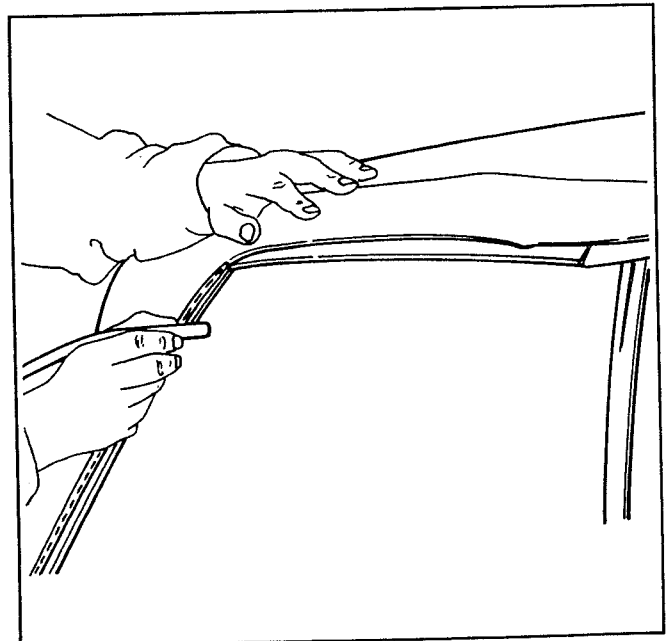

Figure 30. Vehicle Air Pressure Test
3. Using a stethoscope, listen along weatherstrips for escaping air (Fig. 30).